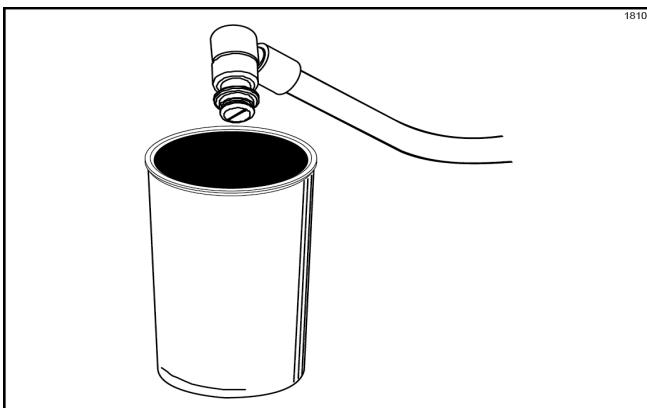

Figure-32
20. Each syrup flavor must be primed to purge the air out of the syrup lines. To prime each syrup line, hold the syrup line up, over an empty cup. (See Figure-32.)